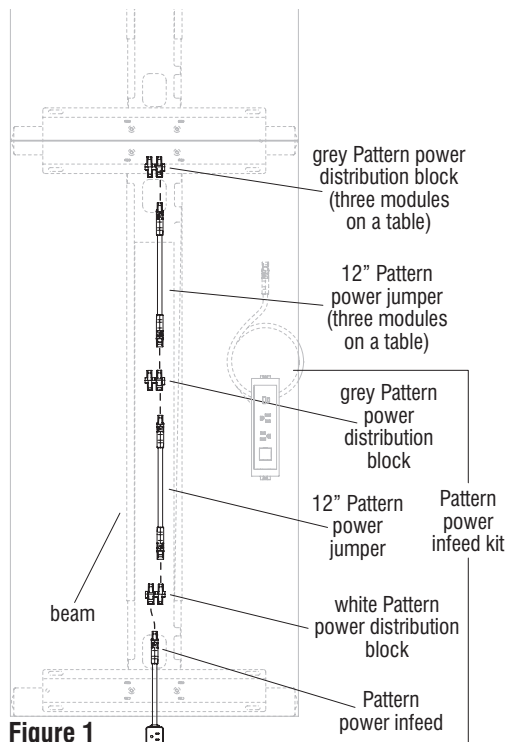

Figure 1
1. For a run of tables, start Pattern electrical system assembly with the table that will contain the Pattern power infeed. Place the Pattern power infeed into the beam, routing the connector end toward the middle of the beam (Figure 1).
2. Locate one white and one grey Pattern power distribution block. Plug the power infeed's male connector end into the white power distribution block first, as illustrated (Figure 1 & Detail A).
3. Next locate a 12" Pattern power jumper and plug the female connector end into the white power distribution block also. As illustrated in Detail A, either port opposite the power supply cord is fine (Figure 1 & Detail A).
4. Take a grey power Pattern distribution block in hand. Plug the previously installed (step 3) 12" Pattern power jumper's male end into the grey power distribution block as illustrated (Figure 1 & Detail B).
5. Steps 1 through 4 assemble a standard Pattern power infeed kit (Figure 1). If the table being assembled has the power infeed installed and it will receive three power modules, an additional 12" Pattern power jumper and grey Pattern power distribution block on the end will be required after the first grey distribution block (Figure 1).